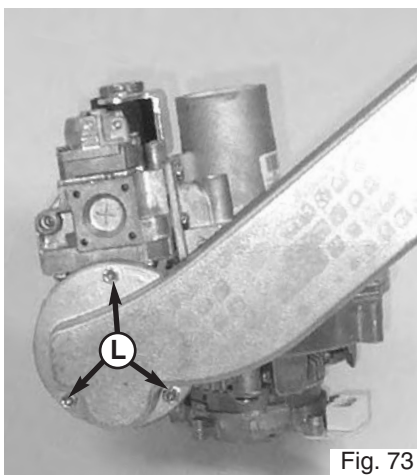

Fig. 73
3. Unscrew the three screws K on the air/gas pipe and remove (Fig. 73);